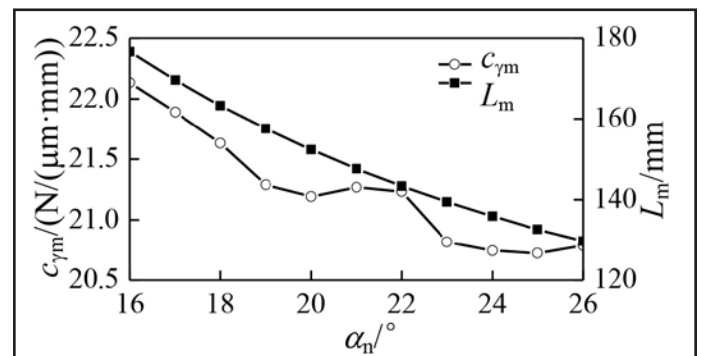

Figure 12 The  $c_{\gamma m}$  and  $L_m$  vs. different pressure angle  $\alpha_n$ .
**Pressure angle.** Figure 12 shows the effect of gear pressure angle  $\alpha_n$  on the mean value of mesh stiffness  $c_{\gamma m}$  and contact-line length  $L_m$ . The pressure angle  $\alpha_n$  is varied from 16°–26°. It is seen that the mean values of mesh stiffness and lengths of contact lines decrease in the same trend when pressure angle  $\alpha_n$  increases. The decreasing values of  $L_m$  and  $c_{\gamma m}$  are 46.98mm and 1.41N/( $\mu\text{m}\cdot\text{mm}$ ), respectively.